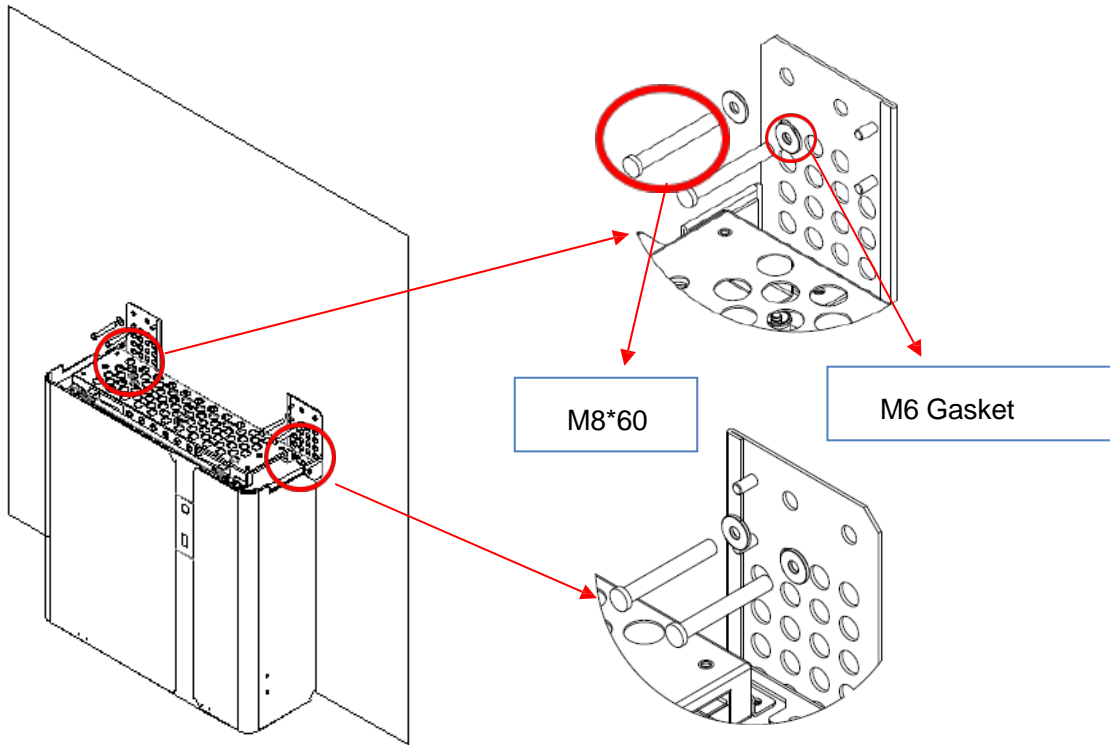

**Figure 14 Battery Installation - Drill Holes**
**(i) NOTE:** please make sure a layer of protection must be placed over the battery while drilling, it could be paper, wood board or packaging bubble, as Figure 14 shows) .